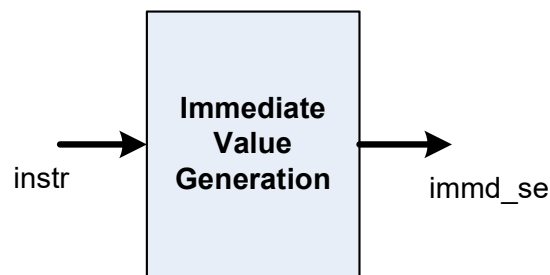

Figure 3.7: Immediate extension module of RV32I.
**Task 2:** Immediate extension is a key part of decode stage and needs to provide sign extended immediate to the execute stage. Implement an RV32I standard immediate extension module using skeleton code available in Listing 3.11. Block level diagram of immediate extension is shown in Figure 3.7.